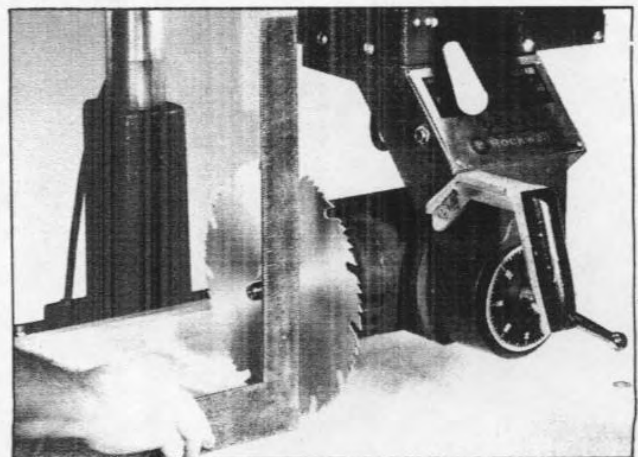

Fig. 21
1. Remove the blade guard and place cutting-head in cut-off position over fixed portion of table as shown in Fig. 21.
2. Place a steel square against saw blade, as shown in Fig. 21. Be sure square is between the teeth of the blade.